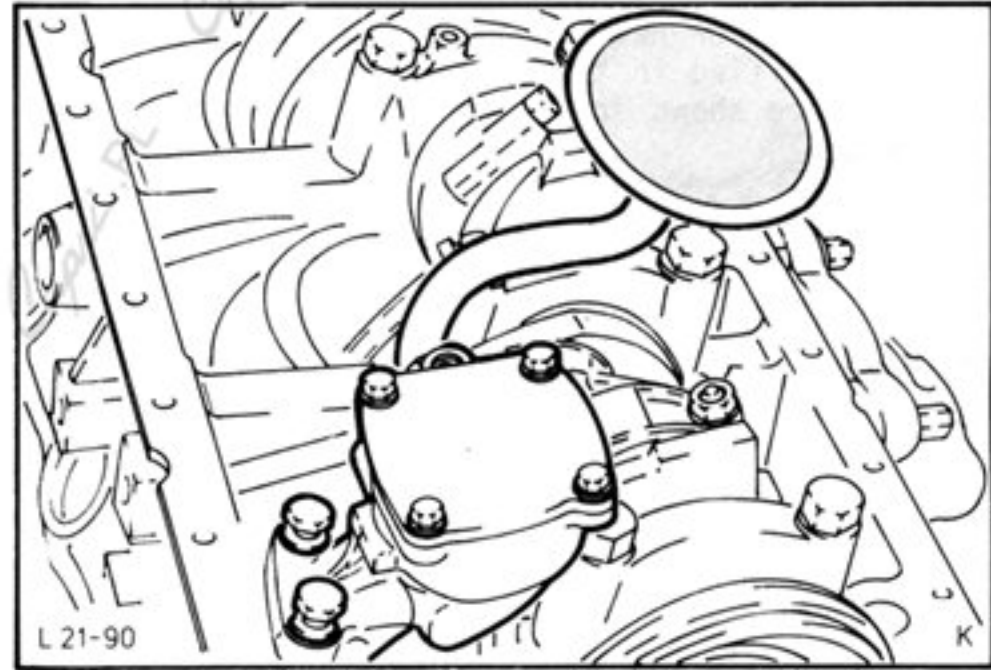

Fig.65. Fit oil pump.
57. Fit oil pump complete with suction pipe and torque bolts as specified in Technical Data, Fig.65.